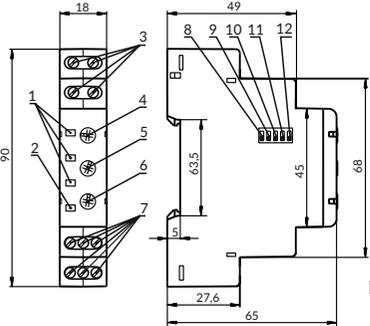

Figure 1
1) Enable the necessary protections using protection switches (it. 8 - 11, Fig. 1).
2) Set the type of mains used with switch of rated voltage of 400V / 415V (it. 12, Fig. 1).
4) Using the Unom±% control (it. 4, Fig. 1), set the required operation threshold for the maximum and minimum voltage as a percentage of the rated supply voltage of the mains.
5) Using the Toff(sec) control (it. 6, Fig. 1), set the protection operation time at the maximum voltage and phase imbalance.
6) Using Ton(sec) control (it. 5, Fig. 1) set the reclosing time AR.
1. If the device is to be used in the "Maximum Voltage Control" mode (The Device Use), the KM coil power supply interruption must be connected to terminals C1-NC1 (C2-NC2) (inverse logic for enabling). Shift the switch Umax (it. 8, Fig. 1) to the "ON" position, and switches ( ) , ( ) , Umin - to the "OFF" position.